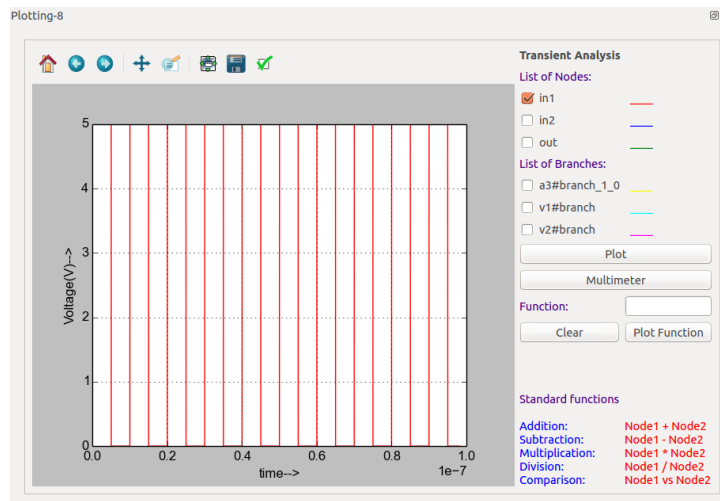
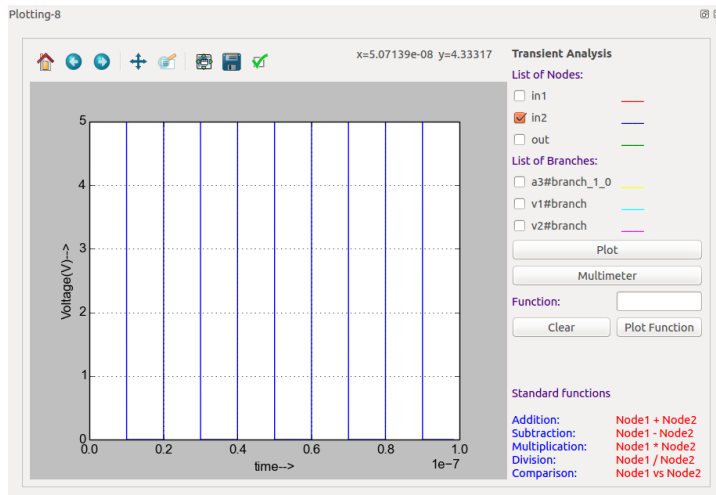
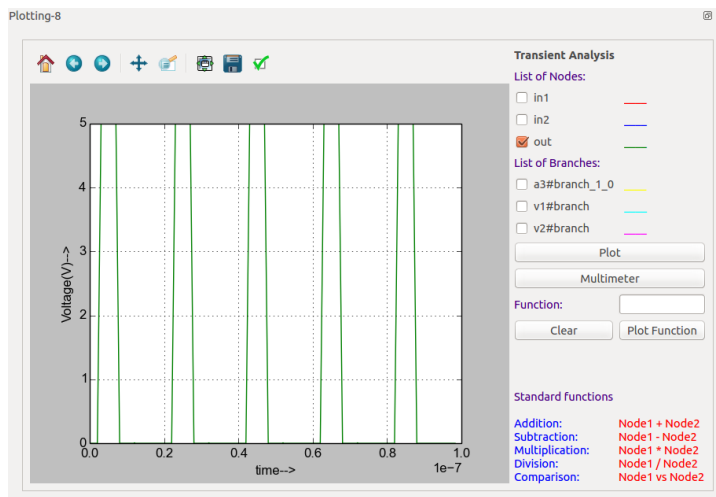

Figure 9.17: Plot of Source V1
Figure 9.18: Plot of source V2
Figure 9.19: Plot of output
- Now select the required nodes and click on Plot button. You can see the plots of input source v1, input source v2 and output as shown in Fig. 9.17, Fig. 9.18, and Fig. 9.19 respectively.